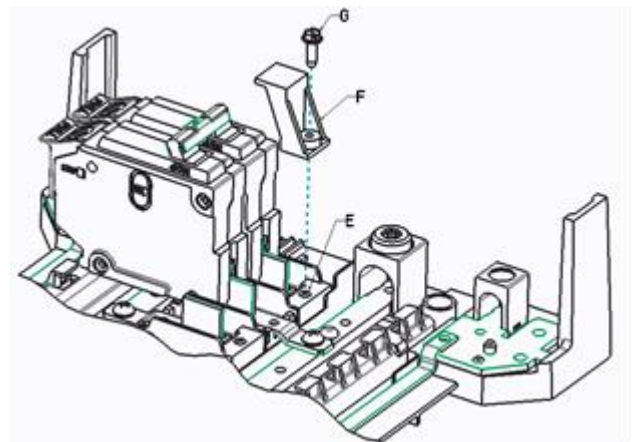

Figure 2: Install Retainer to Secure Breaker
3. Install the 2-pole main circuit breaker (D) on either side of the two stabs nearest to the main lugs of the load center. See **Figure 2**. Use only a GE type THQL or THHQL two-pole circuit breaker in the "OFF" Position.
4. With the circuit breaker still in the "OFF" position, screw the Retainer (F), with its captive self tapping screw (G), the the hole (E) located in front of the stab. See **Figure 2**. Do not use excessive force to tighten the screw.